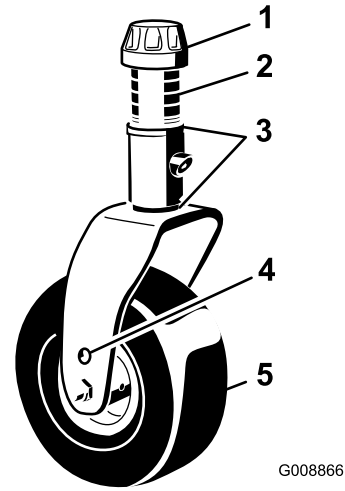

Figure 15
4. Remove the tensioning cap from the spindle shaft and slide the spindle out of the caster arm (Figure 15).